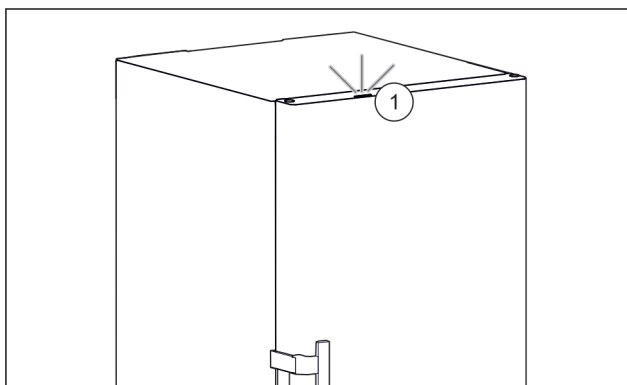

Fig. 56 Active status light when the door is closed
- ▷ Status light Fig. 56 (1) is activated.